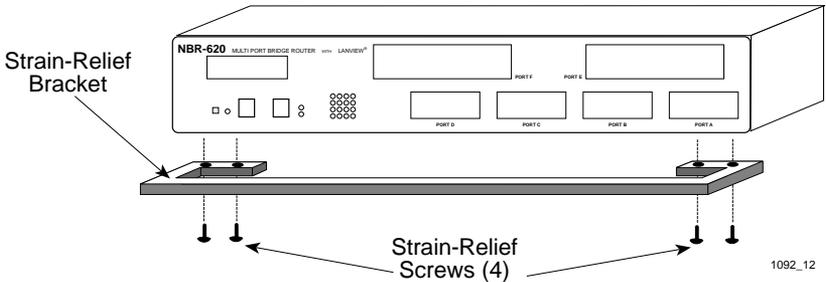

Figure 3-7 Attaching the Strain-Relief Bracket
2. Attach the strain-relief bracket to the bottom of the NBR as shown in Figure 3-7.